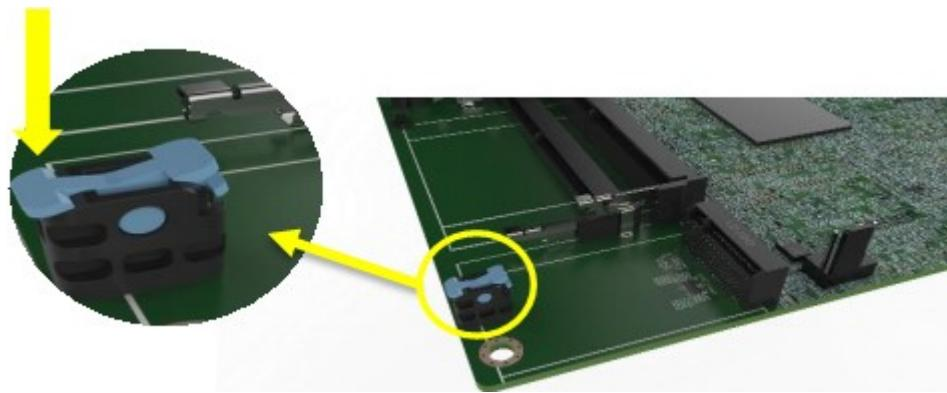

Figure 4-11: Press the Retainer
- Step 1:** Press the retainer down as shown below. (See **Figure 4-11**)
Step 5: If you want to remove the M.2 module, you should press the retainer down as described in Step 1 to release the M.2 module. (See **Figure 4-11**)